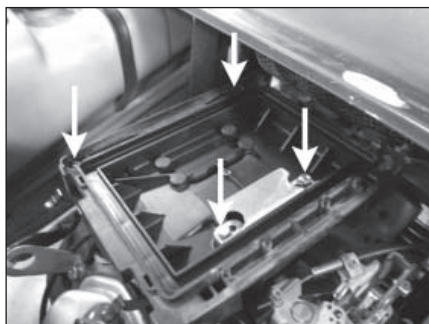

Figure 2 - Air Box Removal
3. Remove the two 10 mm and two 8 mm bolts holding the OEM air box to the engine and remove the air box. See Figure 2.